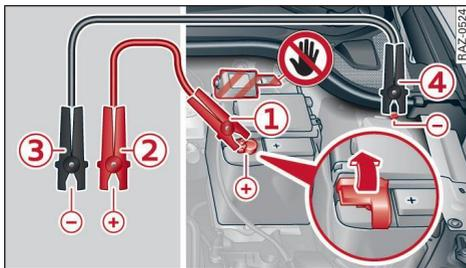
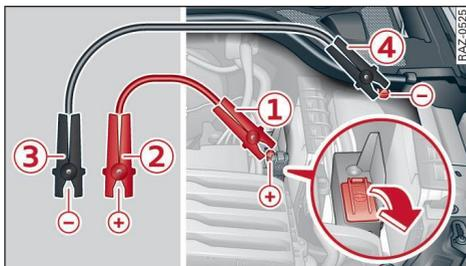

Fig. 159 Engine compartment with vehicle battery: Connecting jump leads
Fig. 160 Engine compartment with jump-start terminals: Connecting jump leads
- ▶ Open the cap on the positive terminal ⇒ Fig. 159 / ⇒ Fig. 160.
- 1. Connect one end of the positive lead (red) to the positive terminal (1) on your vehicle battery or to the jump-start terminal (1) on your vehicle.
- 2. Connect the other end of the positive lead (red) to the positive terminal (2) on the power source.